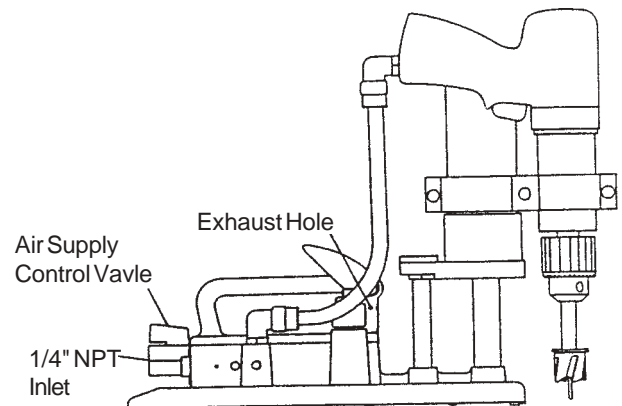

Figure 5
7. Connect the 1557 1/4" NPT inlet (figure 5) to a filtered air supply, with a minimum bore size of (7 mm) or 5/16" and an operating air pressure range of 75-120 psi.
8. Open air supply control valve (figure 5). Any air heard expiring to atmosphere will be coming from the exhaust holes located in the front of the handle. **DO NOT BLOCK EXHAUST OUTLET.**